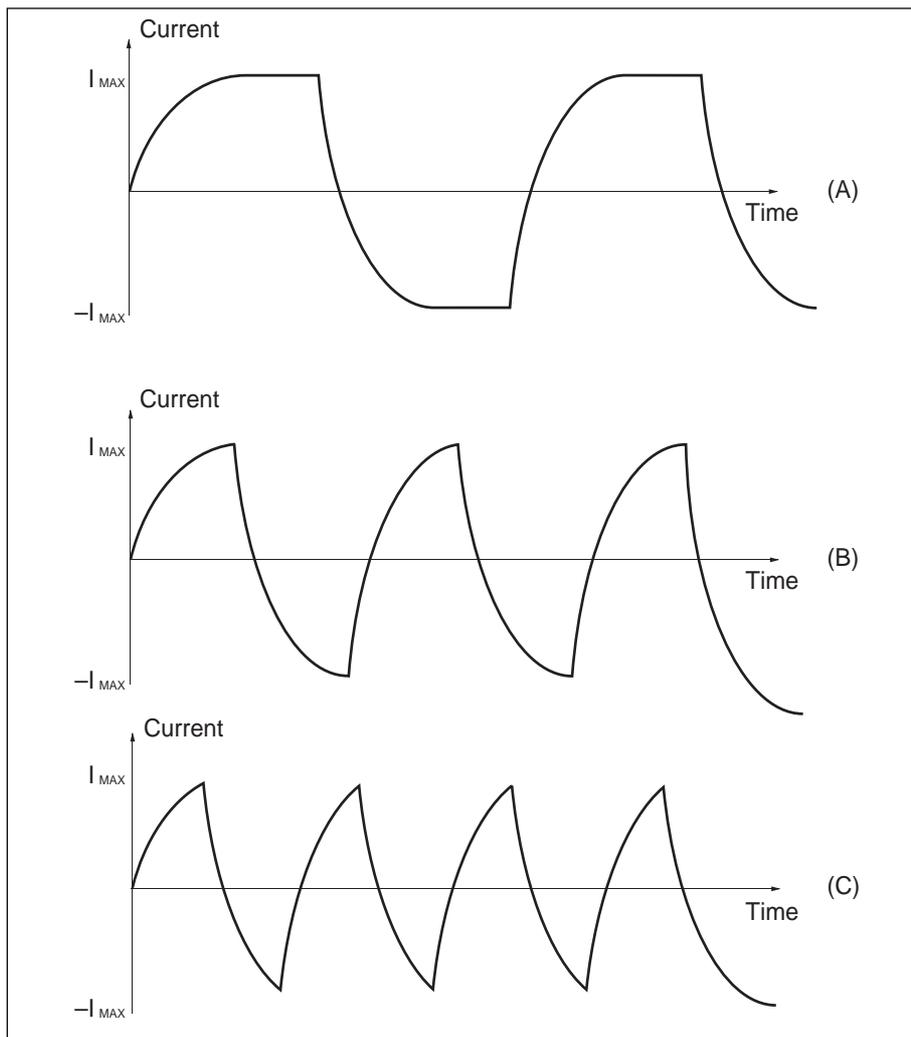

Figure 3. Current wave form in an inductive-resistive circuit.
When a square wave voltage is applied to the winding, which is the case when fullstepping a stepper motor, the current waveform will be smoothed. Figure 3 shows the current at three different frequencies. Above a certain frequency (B) the current never reaches its maximum value (C). As the torque of the motor is approximately proportional to the current, the maximum torque will be reduced as the stepping frequency increases.